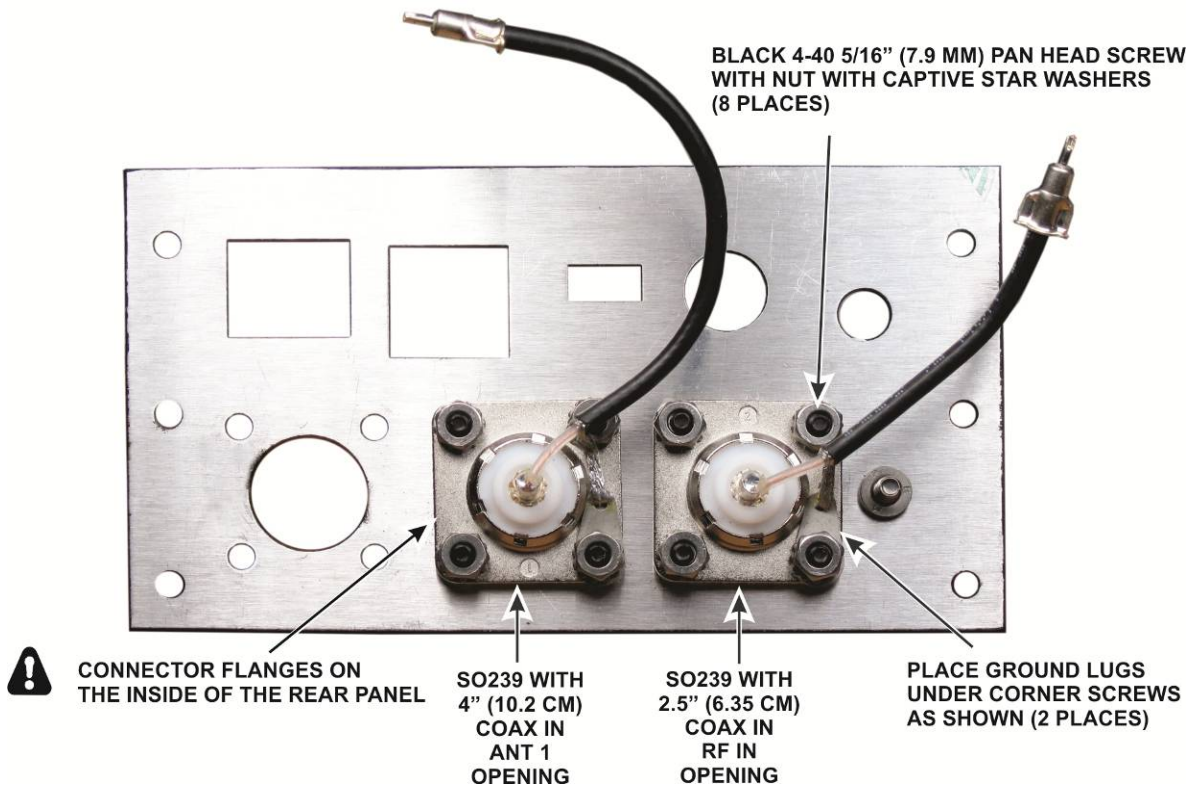

Figure 4. Installing the ANT1 and RF IN SO239 Connectors in the Rear Panel.
□ Install SO239 connectors in the ANT1 and RF IN openings in the rear panel as shown in Figure 4. Be sure you put the connector with the length of coax in each hole as shown or you won't be able to plug them in later.